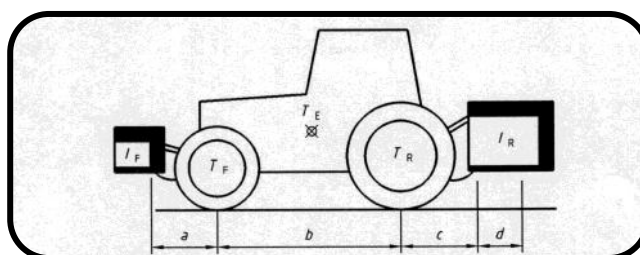

Fig. 12
**Key** (please refer to Fig. 12):
**Ir** (kg) = total weight of the carried machine + carried product ② ③
**Tf** (kg) = load on the front axle of the unloaded tractor ①
**Tr** (kg) = load on the rear axle of the unloaded tractor ①
**Te** (kg) = tare weight of the tractor ①
**a** (m) = distance in metres between the centre of gravity of the front ballast and the centre of the front axle ① ③
**b** (m) = tractor's wheel base in metres ① ③
**c** (m) = distance in metres between the centre of the rear axle and the centre of the lower joints ① ③
**d** (m) = distance in metres between the centre of the lower joints and the centre of gravity of the machine ② ③
① Read the tractor's instruction manual